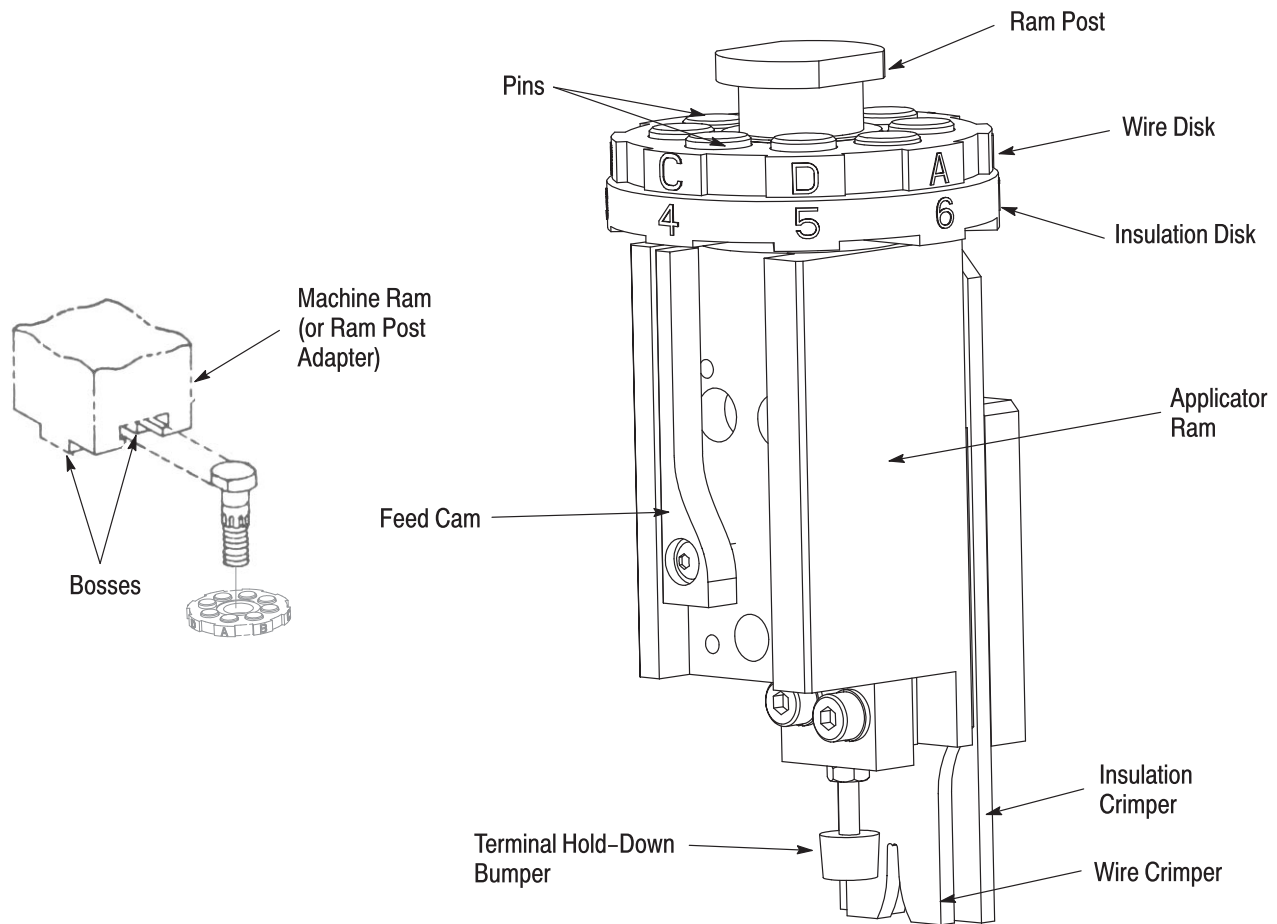

Figure 3
The main components of the applicators are identified in Figures 1 and 2. The ram assembly is shown in detail in Figure 3.
Just below the ram post are the wire disk and the insulation crimp disk. The wire disk has as many as four pairs of pins installed, depending on the number of different wire sizes the terminals will accept. Each pair of pins has a different height. By rotating the disk, each pair of pins can be lined up with the two bosses on the ram post adapter (see Figure 3) to change the applicator crimp height. Some terminals accept more than four wire sizes. Terminating additional wire sizes will require adding or replacing pins in the wire disk. Refer to the applicator assembly drawing and Paragraph 7.6 for more information. The insulation crimp disk contains eight pads of different heights. When this disk is turned, the pads line up with the top of the insulation crimper to change the insulation crimp height.
2. Turn wire disk (upper disk) to line up selected pad letter with the bosses on the machine ram (or ram post adapter). See Figure 3. This provides the right crimp height for that wire size.